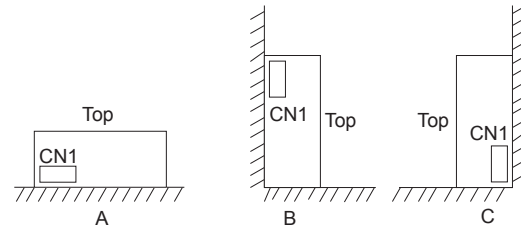

Fig. 4.3 Installation method 1
■When mounting the power supply with screws, it is recommended that this be done as shown in Fig. 4.3. If other methods are used, be sure the weight of the power supply is taken into account.